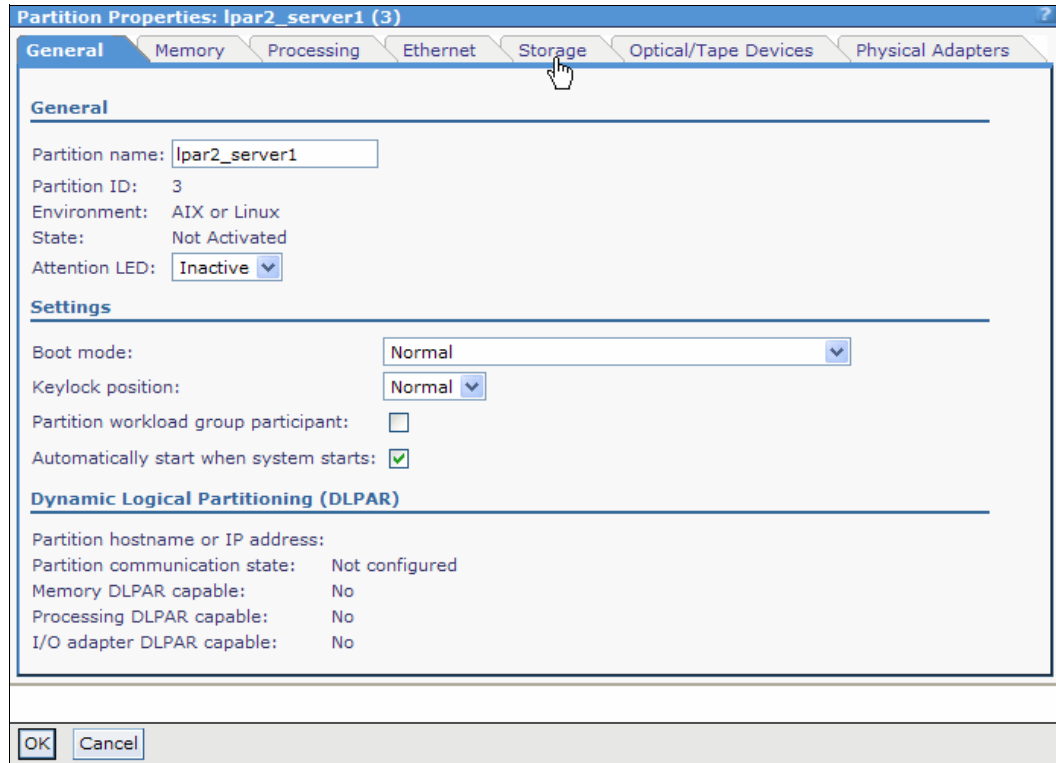

Figure 4-98 Partition Properties window
2. The Partition Properties window is started. Select the **Storage** tab, as depicted in Figure 4-98.